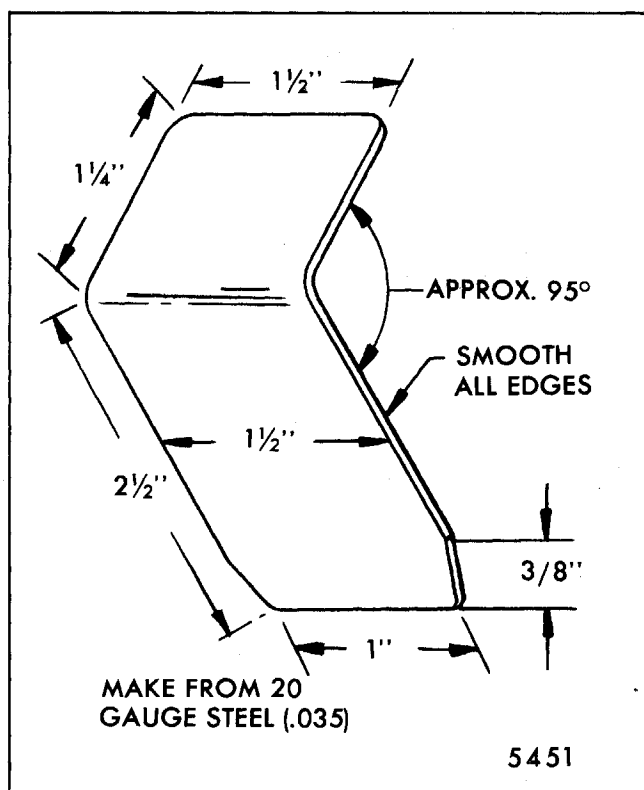

Fig. 9-58-Head Restraint Antiremoval Lock Releasing Tool - 1975, 1976 and 1977 A, E and X Styles, 1978 X Styles
NOTE: A head restraint lock releasing tool, shown in Figure 9-58, can be made from 20 gage (0.9 mm) steel stock. The edge of this tool will release the spring lock tab on 1975 and 1976 B, C, E and D body styles; the flat surface will release the spring lock tab on 1975, 1976 and 1977 A and X body styles.
3. On E and X styles, insert lock release tool (Fig. 9-58) or suitable flat piece of metal 1-9/16" wide down front surface of head restraint post approximately 2-1/2"; then lift head restraint out of guide tube.